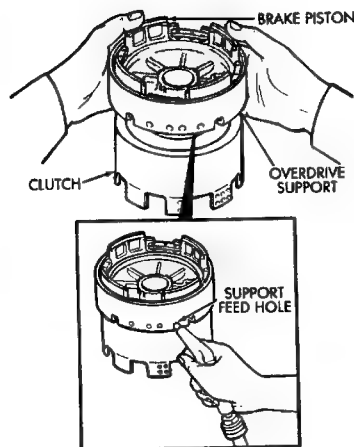

Fig. 2 Checking Brake Piston Movement
(1) Check brake piston operation. Mount support on clutch (Fig. 2).
(2) Apply compressed air through support feed hole and observe brake piston movement (Fig. 2). Piston should move smoothly and not bind or stick. If operation is incorrect, replace piston and support.